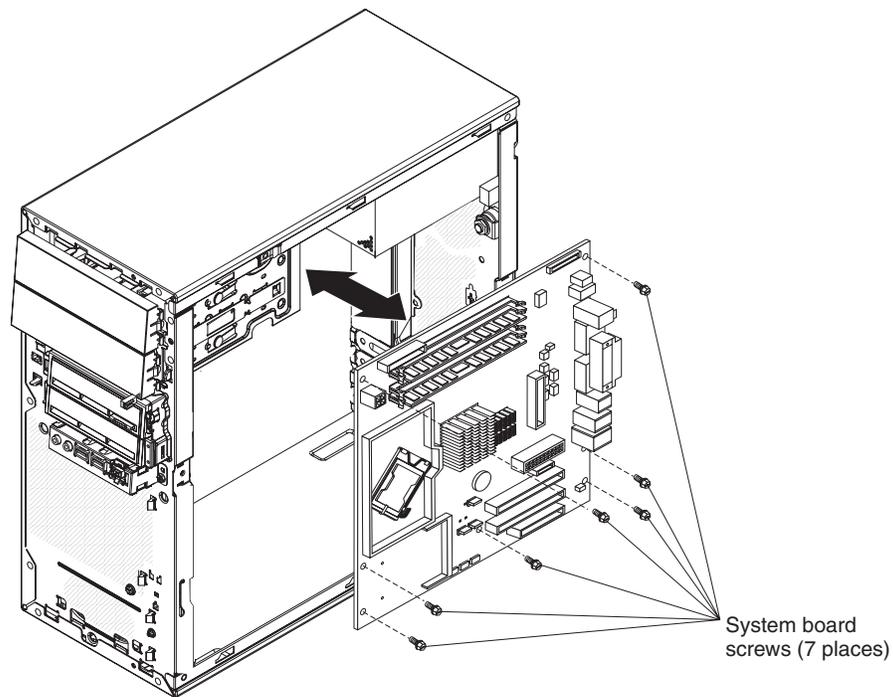

Figure 54. Installing the system board
2. Install the seven screws that secure the system board (see Figure 54).